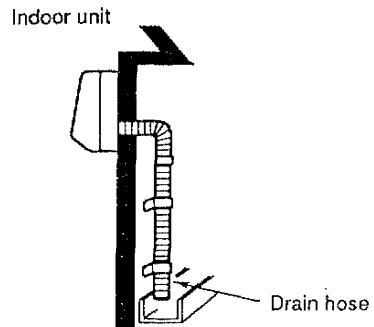

Fig. 1
- select a location where tubing and drain pipe have the shortest run to the outside. (Fig. 1)